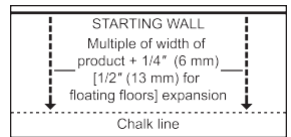

Figure 5
- In at least two places, at least 18" (46 cm) from the corner, measure out equal distance from the starting wall (Figure 5) and snap a chalkline. The measurement must be the sum of the width of the flooring plus an additional 3/8" (9.5 mm) to allow for 1/4" (6 mm) expansion space and the width of the tongue. Allow 1/2" (13 mm) expansion when installing floating floors.